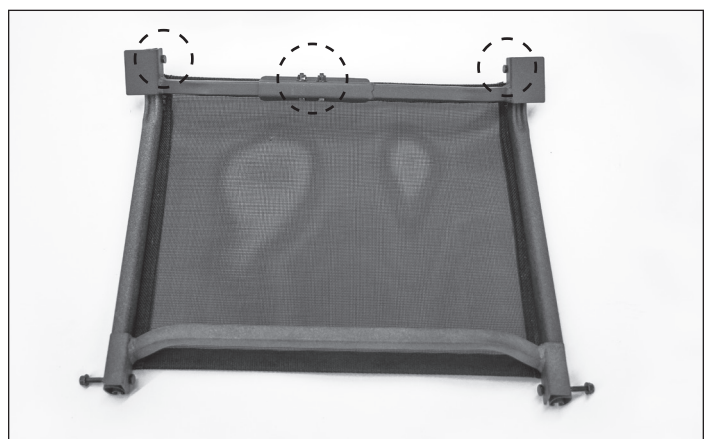

FIGURE 30 - Tighten front brace bolts and locknuts (4)
- Tighten all (4) bolts and locknuts on the front hinged brace at this time. **SEE FIGURE 30.** This will tighten up the side rails of the seat to the braces and square up the entire seat.